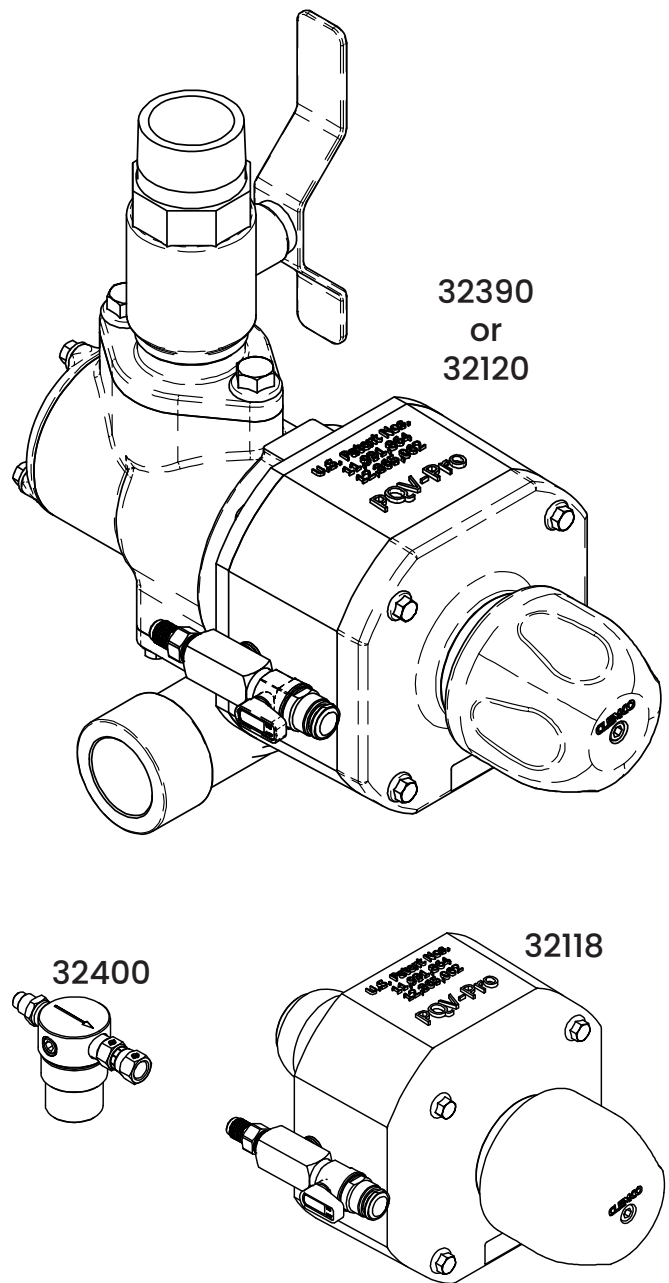

FIGURE 10
6.1 Replacement PQV-Pro Metering Valves – Figure 10